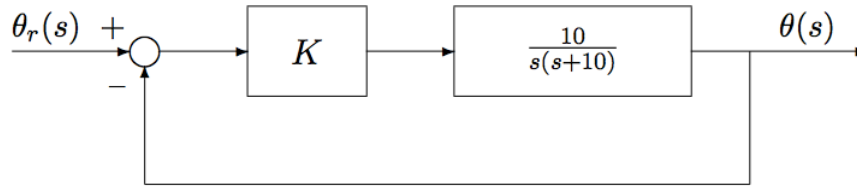

Figure 7: Robot control system
8. The control of one axis of a robot can be represented by the block diagram in Figure 7. Determine the value of K so that the robot reaches steady state in this axis in minimum time with no overshoot.